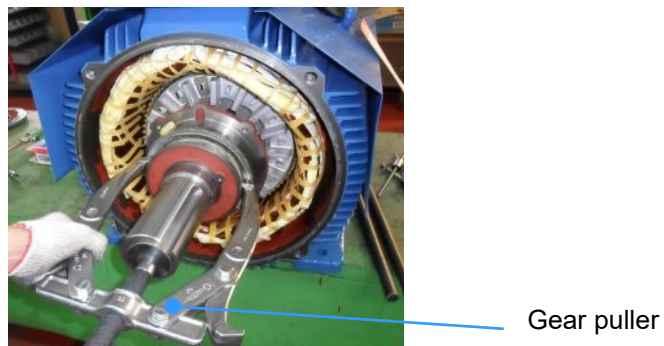

Figure 8.1 - Bearing Removal
- (1) Shut off the power, and disconnect the power line inside of terminal box and lead wire of the motor.
- (2) If the motor is equipped with grease-lubricated type bearings, remove the grease inlet/outlet components from the motor.
- (3) For bearing replacement from non-drive side, dismantle hood and cooling fan.
- (4) Release bracket assembling bolts from drive/non-drive sides; dismantle bracket from frame and bearing.
- (5) Use the gear puller to disconnect the drive/non-drive side bearing. (See Figure 8.1)